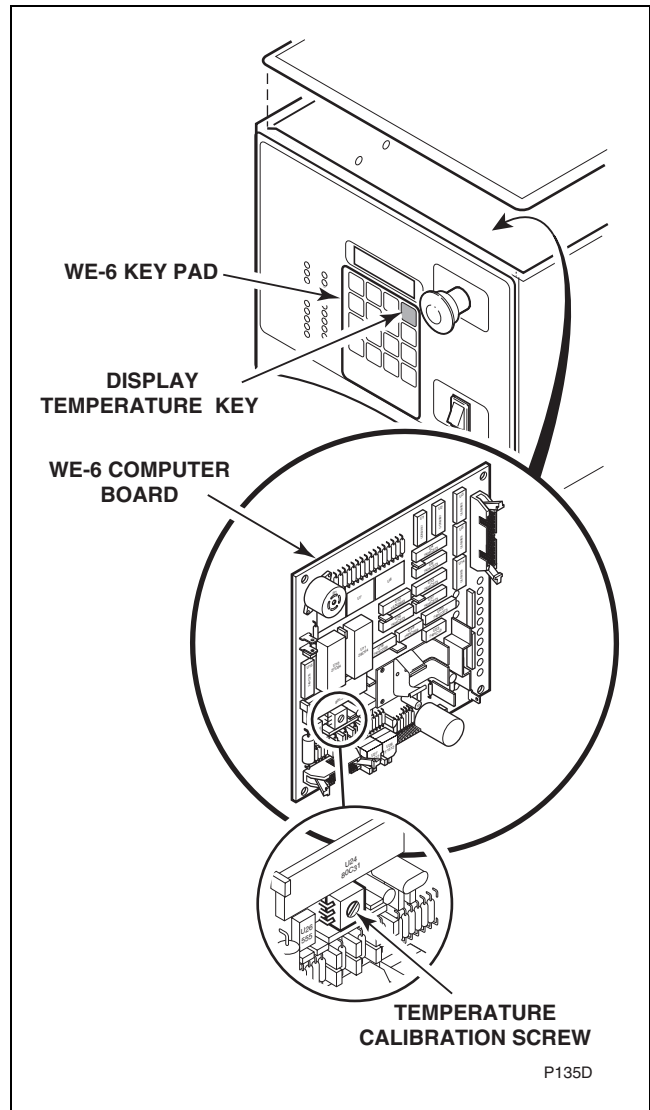

Figure 11
- Looking at the lower left of the computer board from the rear of the washer-extractor, find the 1/2 inch x 1/2 inch (13 mm x 13 mm) square blue component with a white plastic screw head in its center. This is the temperature calibration potentiometer. Turning the screw head adjusts the temperature reading. Refer to *Figure 11*.
- g. Start the cycle and, when the high water level is reached (and the external temperature sensor is submerged), press the “Display Temperature” key on the WE-6 keypad. Refer to *Figure 11*. The display will show a temperature.